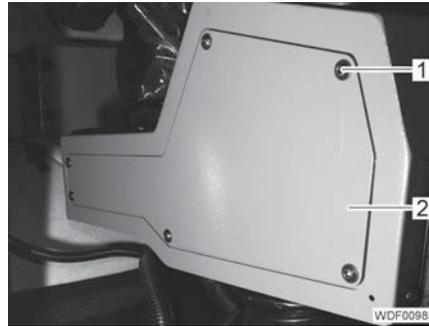

Fig. 205 Cover attachment
- Unscrew the 6 screws (Fig. 205,1).
- Remove the cover (Fig. 205,2).
- Position the cover (Fig. 205,2).
- Screw in and tighten the 6 screws (Fig. 205,1).